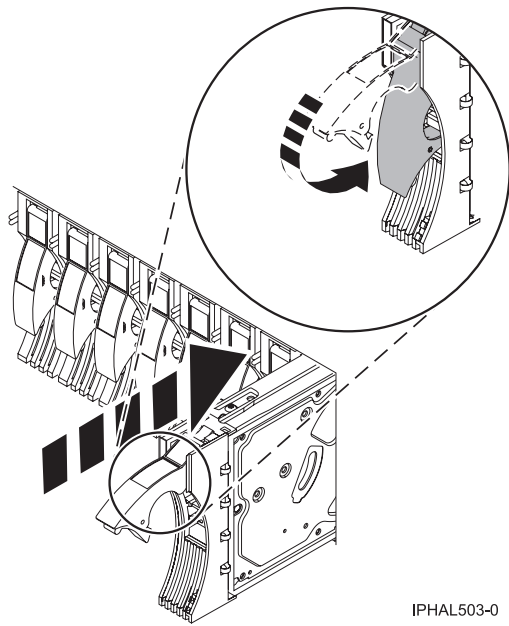

Figure 4. Installing a disk drive in a model
18. Slide the disk drive into the system unit until it stops, as shown in Figure 4 on page 17.